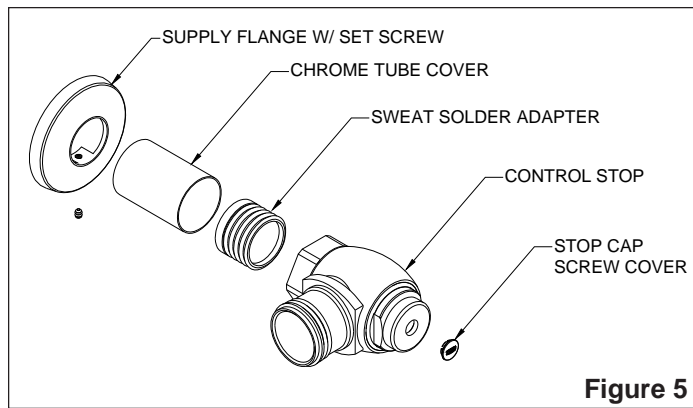

Figure 5
STEP 5 - Control Stop Installation (Figure 5)